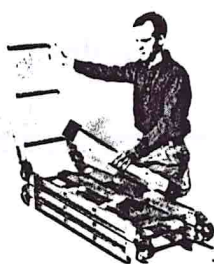

FIGURE 2.
- 3) Your ladder is shipped with all hinges locked. Unlock the two hinges of the rail that holds the two stabilizer bars in place during shipment. Lift the rail and lock it in place by locking hinges. Remove stabilizer bars as shown in figure 2.